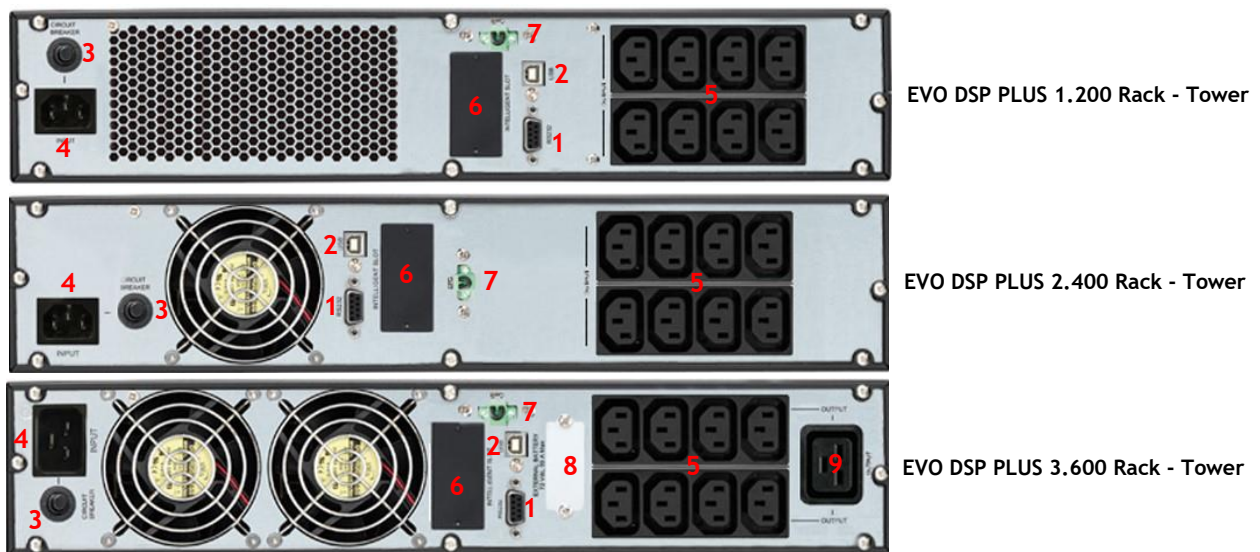

Figure 4 - Rear Side
EVO DSP PLUS Rack Tower models have the EPO (Emergency Power OFF) connector on the rear side, (see figure 4).
2. Through the included power cable connect the UPS Input socket to the AC line outlet (see figure 4). It is **mandatory to ground the AC line outlet according to the Safety Standards**. Carefully check the grounding of AC line outlet.
- 3.1. Remove the metal cover (#7) on the rear side (see figure 4) to access to the Battery Box Connector.